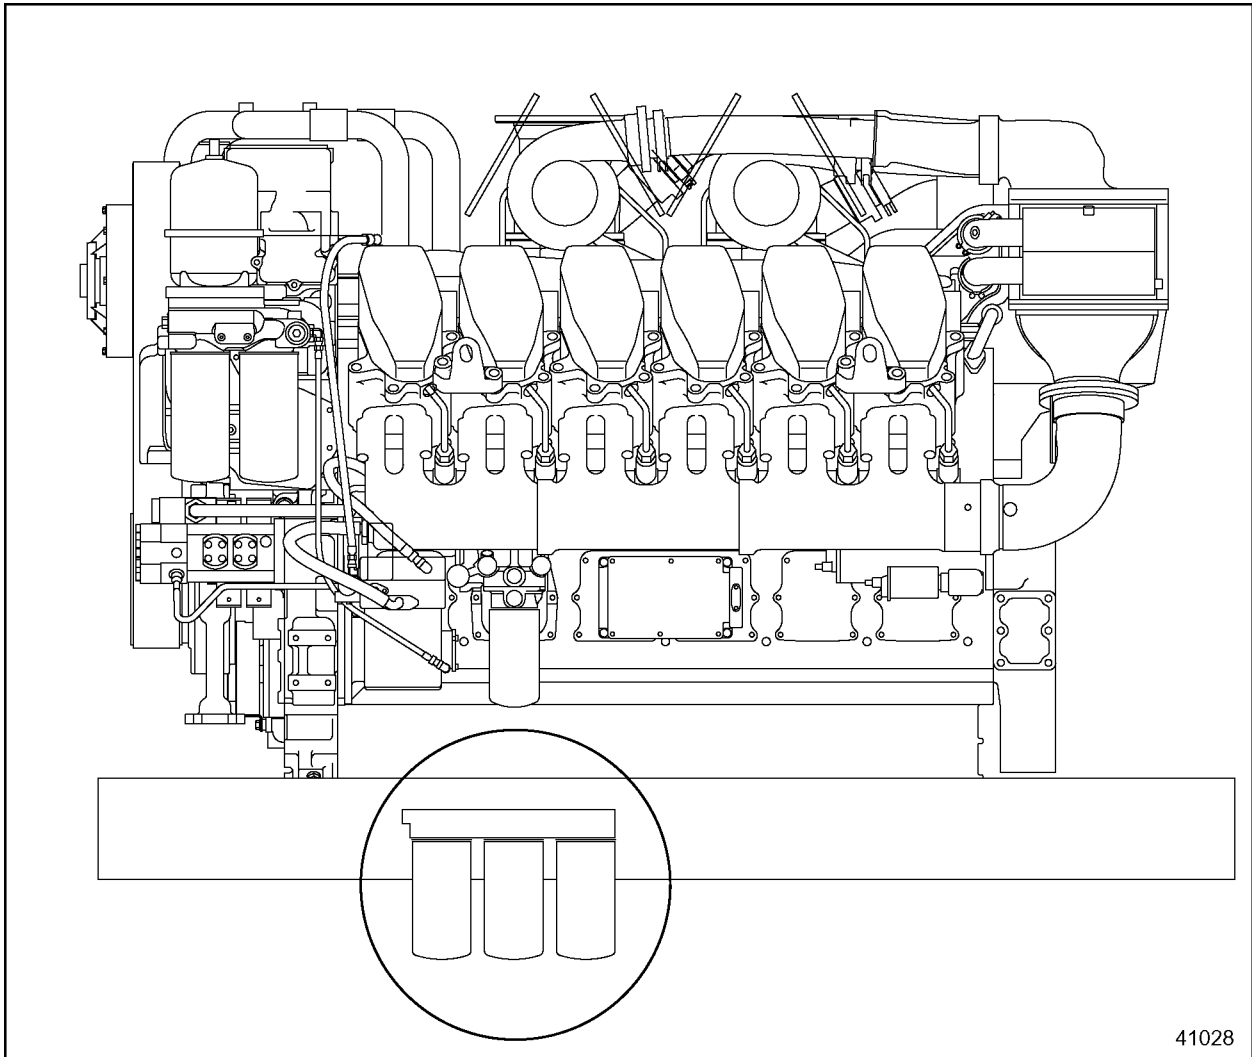

Figure 3. Suggested Mounting Location for Remote Oil Filter Assembly
3. Select a suitable location for mounting the remote oil filter adaptor, making sure there is enough room for convenient filter replacement. See Figure 3 for a typical installation location. Clean the mounting surface for the filter adaptor.